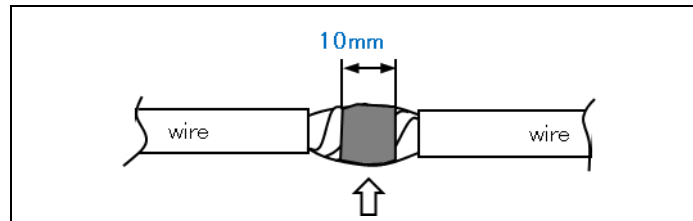

Figure 12
14. Solder the twisted wire joint together. Make sure that the soldered joint goes completely around the wires and is at least 10mm in length. (See Figure 12.)